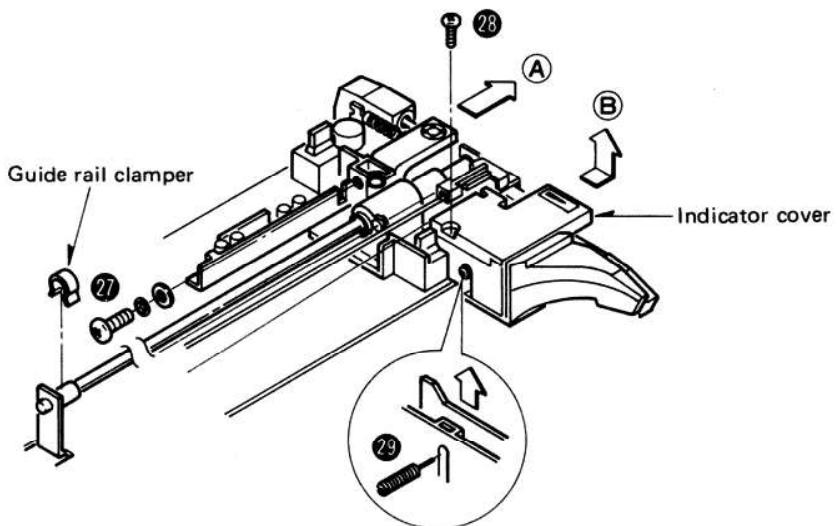

Fig. 14
5. Remove the tonearm setscrew. (Fig. 14 : 27)
6. Remove the guide rail clamper, and pull out the guide rail, the remove the tonearm in the direction of the arrow (A).
2. Remove the indicator cover setscrew (Fig. 14: 28) and the indicator cover in the direction of the arrow (B) . (Fig. 14)
3. Remove the offset angle detection circuit board adjustment screw (Fig. 14: 29), then the offset angle detection circuit board can be removed.